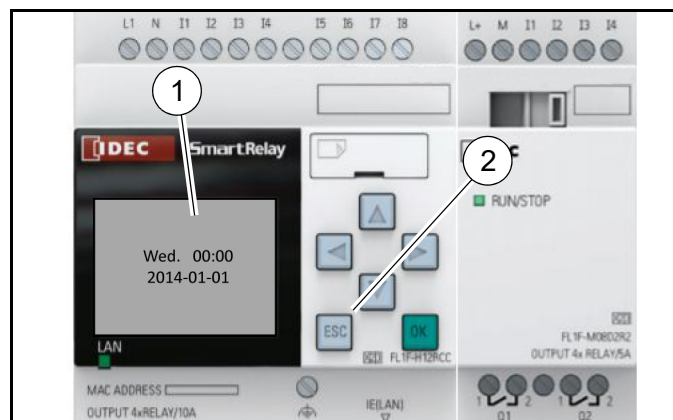

Figure 26
HOME MENU - When the PLC is initially powered, the Home Menu (**Figure 26, 1**) is displayed on the PLC control screen. Notice the flashing date and time screen. To navigate to the Main Menu to change timer and cycle settings, press the ESC button (**Figure 26, 2**) once. This will take you to the Main Menu.
3. Select the MANUAL mode on the MANUAL/AUTO Switch (**Figure 26, 2**) located on the control panel.